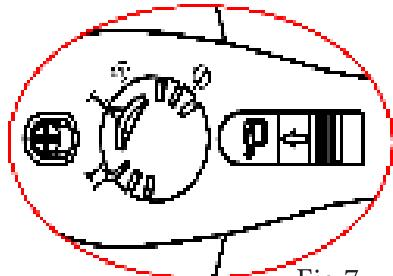

Fig.7
3. Equipping to adjust pressure-limiting valve, regulating working pressure very easy. (fig 7), the position of low pressure step
Closing the lid, according to requirement, adjust the pressure-limiting valve to low pressure step or high pressure step. (Fig. 7)